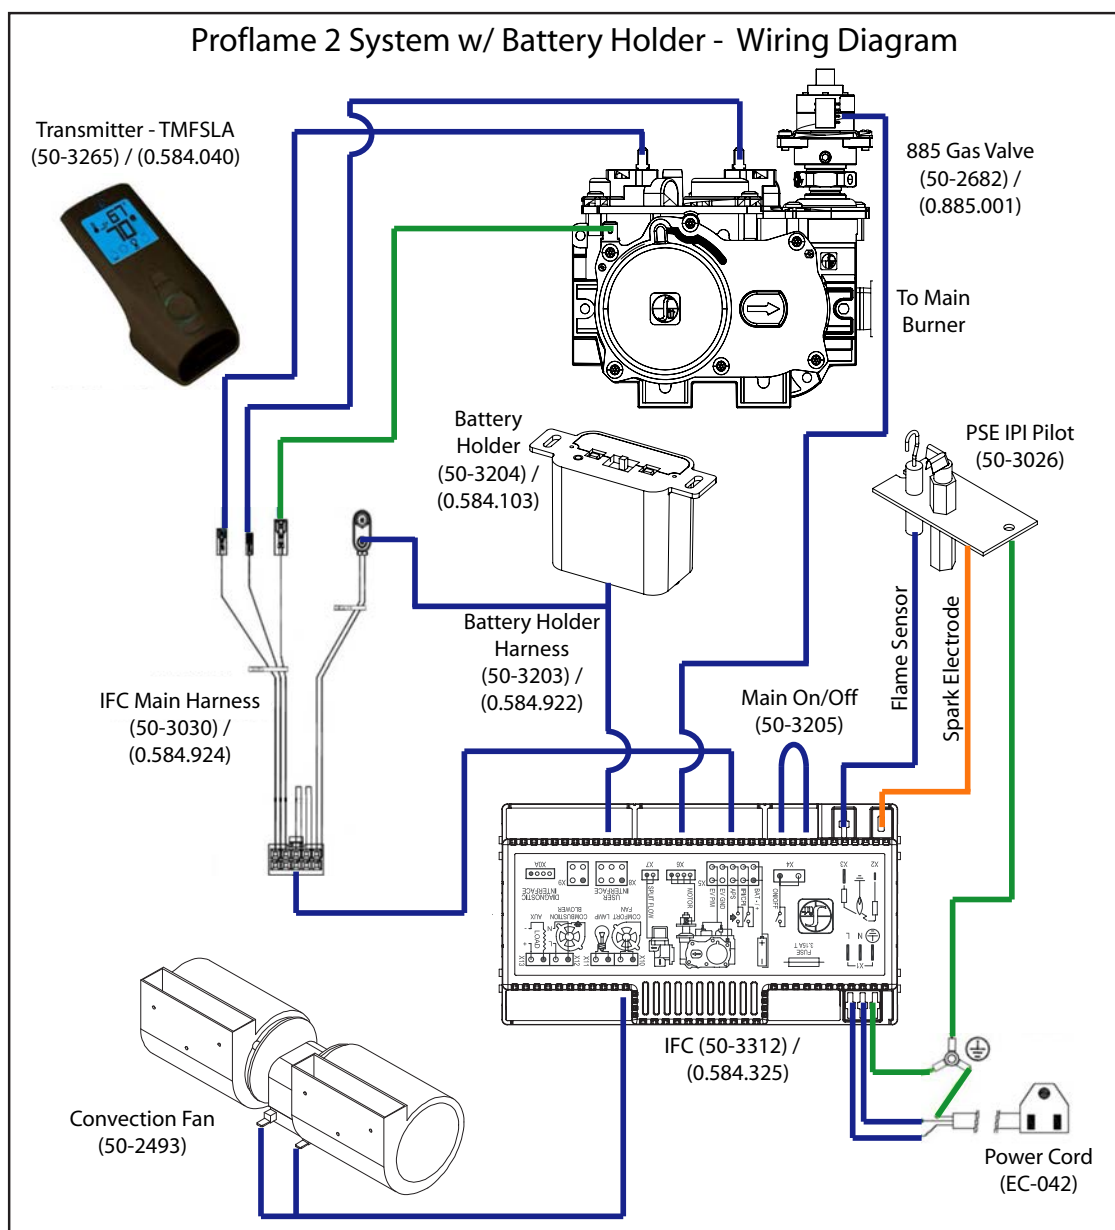

Figure 33: Wiring Diagram.
- A $\frac{3}{8}$ " 45° flared fitting and flex connector are supplied with the unit (see Figures 33 and 34). Consult the local authorities for local codes or use the CAN/CGA B149 (1 or 2) installation code in Canada. In the US, gas installations follow either local codes or the current edition of the National Fuel Gas Code ANSI Z223.1.